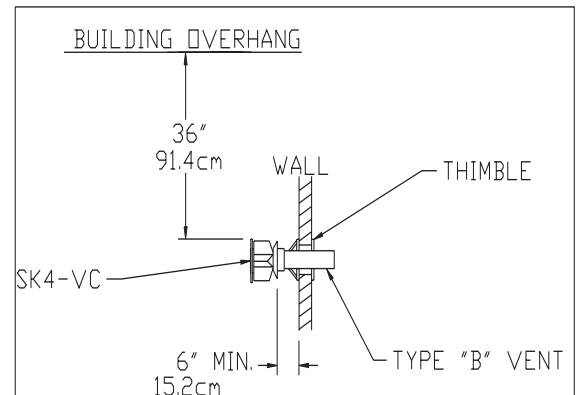

Figure 2.8.2
- * Horizontal venting must maintain a minimum distance from the vent termination to the sidewall. See Figure 2.8.2 through 2.8.4